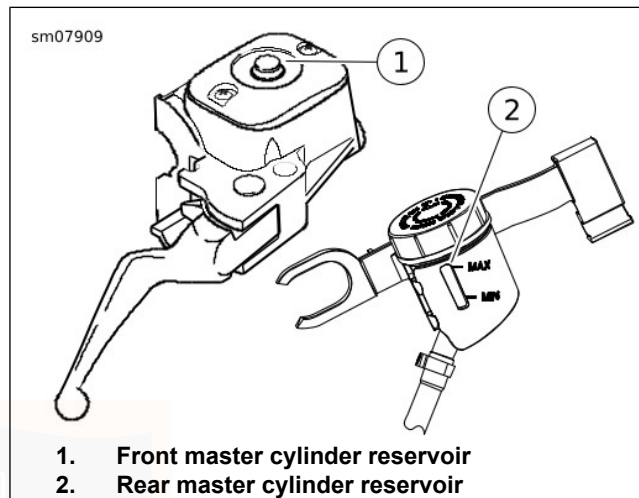
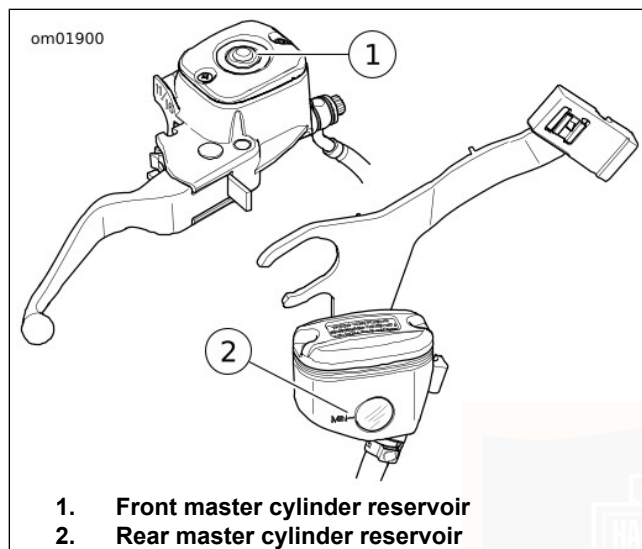

Figure 60. Brake Fluid Sight Glass: FLHTCUTG
Figure 61. Brake Fluid Sight Glass: FLRT
1. See Figure 60 and Figure 61. Check fluid level in brake master cylinder reservoir. Place vehicle on a flat level surface. Turn handlebar so master cylinder is level.